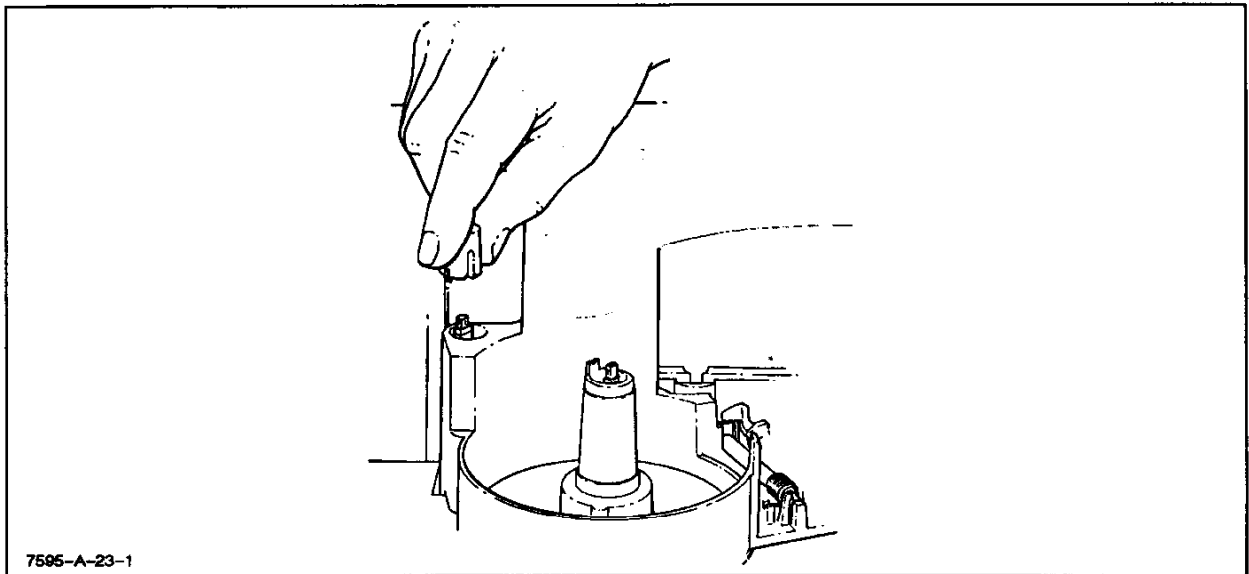

Figure 6-8. Photoemitter/Sensor Removal
- a. Turn the plotter line switch to OFF (O) and disconnect the ac power cord.
c. To access the photoemitter, simultaneously squeeze and lift the photoemitter cap. Note the position of the node on the photoemitter for ease of reassembly. See Figure 6-8.
d. To access the photosensor, simultaneously squeeze and lift the photosensor cap. See Figure 6-8. Note the position of the flat side of the photosensor for ease of reassembly.